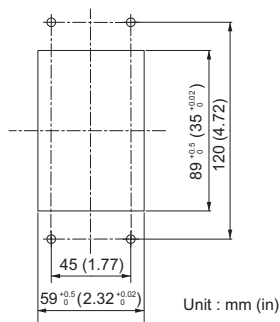

Figure 10 Panel Cut-out Dimensions (Internal/Flush-mount Installation)
1. Cut an opening in the enclosure panel for the LCD Operator Option according to *Figure 10*.